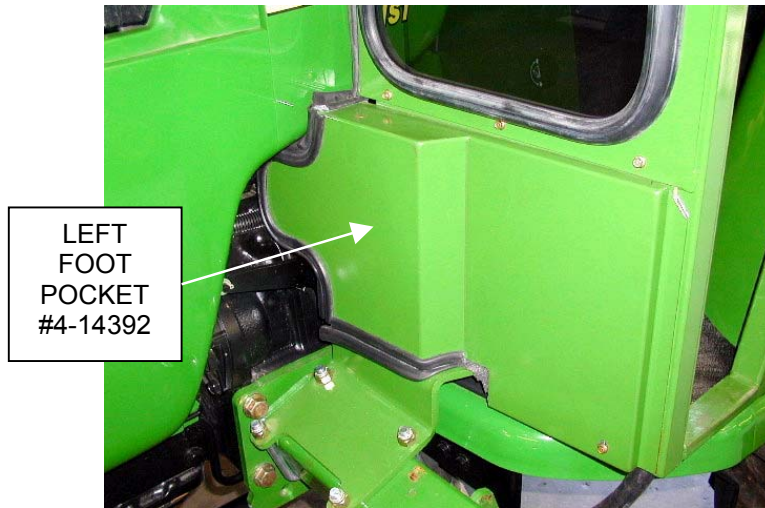

Figure 5
18) Attach front left and right foot pockets using (8) #10-24 x 5/8" bolts (See Figure 5).